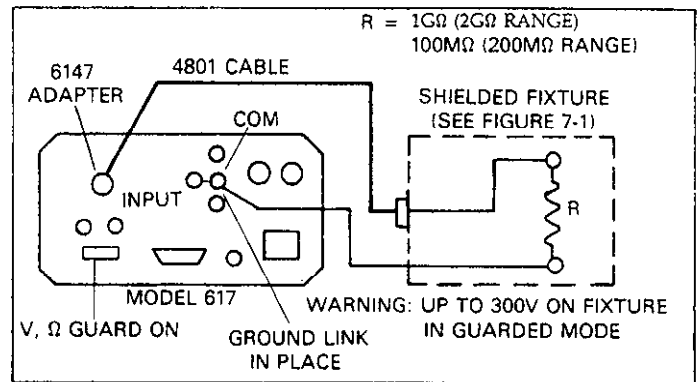

Figure 7-8. Connections for Ohms Calibration ($2\text{G}\Omega$ and $200\text{M}\Omega$ Ranges)
- Connect the $1\text{G}\Omega$ resistor to the Model 617, as shown in Figure 7-8. Use the shielded fixture in Figure 7-1. Enable zero check and place the V, Ω GUARD switch ON.